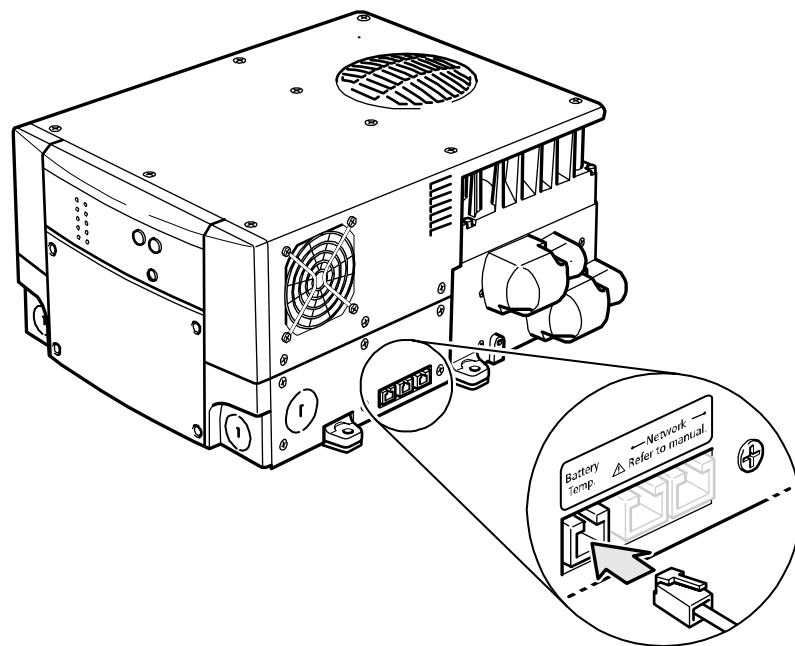

Figure 11 Connecting the BTS Cable to Battery Temp. jack
9. Route the sensor cable to the inverter/charger and plug it into the Battery Temp jack, as shown in Figure 11. Secure the cable along its length.
6. Route the sensor cable to the inverter/charger and plug it into the Battery Temp. jack, as shown in Figure 11. Secure the cable along its length.